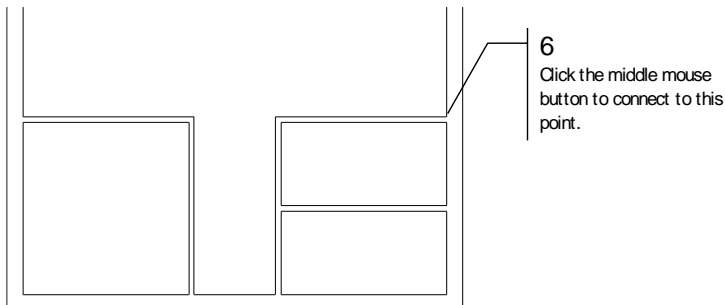

Figure 3.28: Selecting the starting point of the countertop.
5. Move the cursor to the corner marked 6 in Figure 3.28 and click the middle mouse button to select it as your first reference point.